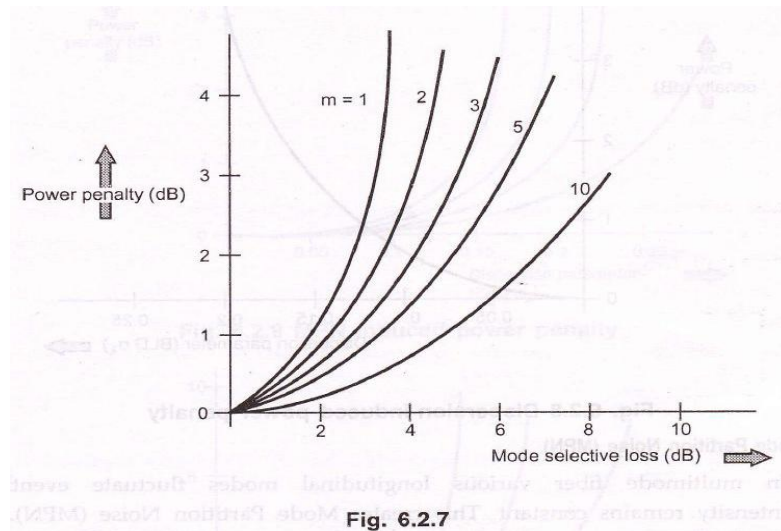

Fig. 6.2.7
- Fig. 6.2.7 shows power penalty at